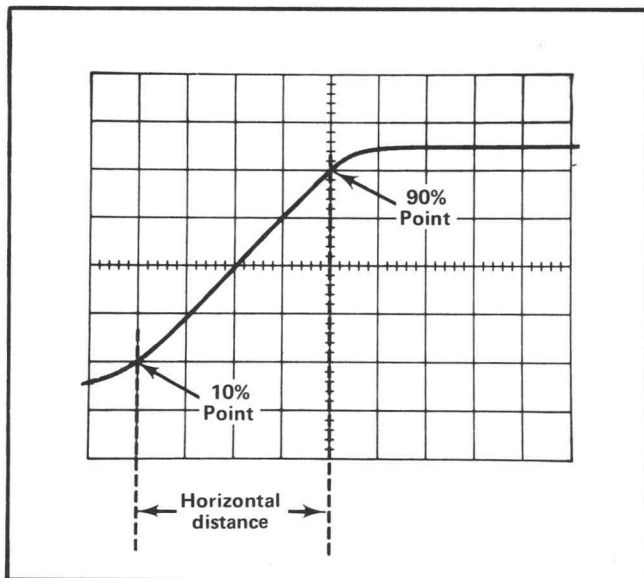

Fig. 2-14. Measuring risetime.
8. Adjust the horizontal POSITION control to move the 10% point of the waveform to the first graticule line. For example, with a five-division display as shown in Fig. 2-14, the 10% point is 0.5 division up from the start of the rising portion.
Example. Assume that the horizontal distance between the 10% and 90% points is four divisions (see Fig. 2-14) and the TIME/DIV switch is set to $1\ \mu\text{s}$ with the X10 MAG switch pulled out.